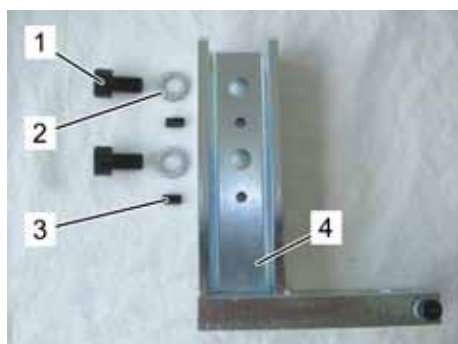

Fig. 35: Single profile type sensor bracket
3. Tighten the profile type sensor bracket (Fig. 35/4) for one sensor (here bracket for cylinder no. 1 left hand side) with the bolts M8 or M10 (Fig. 35/1) and NordLock® discs (Fig. 35/2) under the crossheads of the first and the last cylinder.